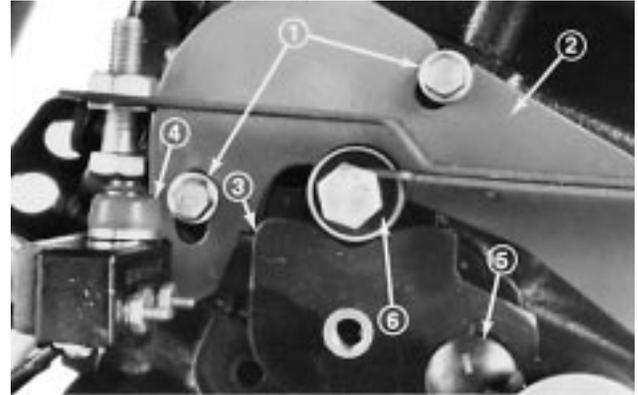

Figure 71
4. With engine OFF, loosen nut on carriage bolt and allow bearing to locate cam (Fig. 71). Carefully tighten nut on carriage bolt.
5. Loosen screws to allow neutral device bracket to move; but not freely (Fig. 71). Adjust neutral device bracket so that $40 \pm$ in-lb of torque on control lever just starts to rotate lever. Tighten screws.